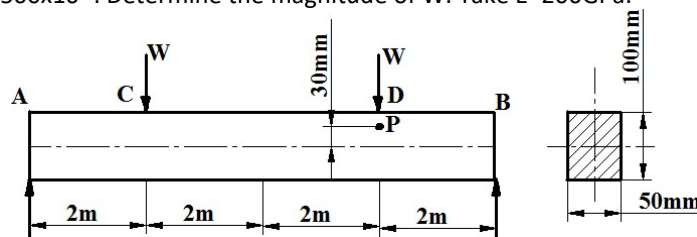

Figure 38
19. When a simply supported beam is subjected to the loads as shown in the **Figure 38**. The longitudinal strain induced at a point P is found to be  $500 \times 10^{-6}$ . Determine the magnitude of  $W$ . Take  $E=200$ GPa.